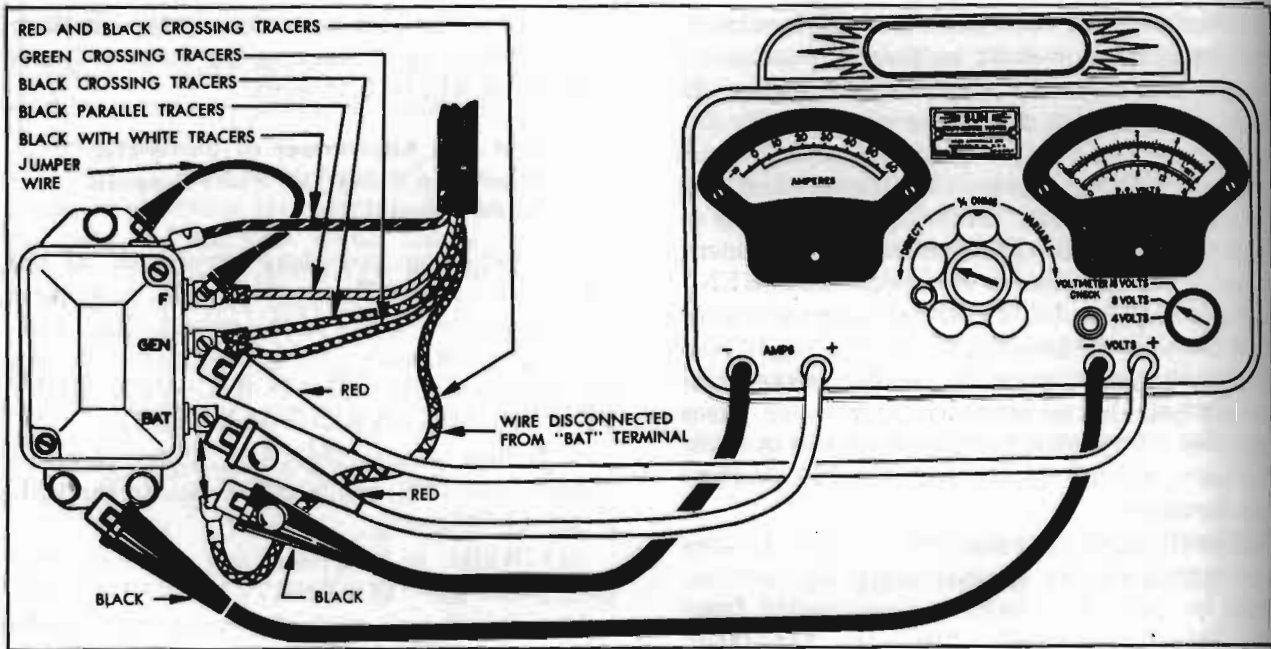

Figure 10-20—Cutout Relay Test Connections—Sun Volts
3. Depress the release button on the Control Knob of Volts Ampere Tester and rotate knob counterclockwise to the stop in "DIRECT" position. Turn voltmeter Selector Switch to the "8 VOLT" position. See figure 10-20.
4. *With engine stopped*, disconnect wire from regulator terminal marked "BAT", connect the black ammeter test clip to the disconnected wire, and connect the red test clip to the regulator "BAT" terminal. See figure 10-20.
5. Connect the red voltmeter test clip to the "GEN" terminal of regulator and connect the black voltmeter test clip to ground on base plate of regulator. See figure 10-20.